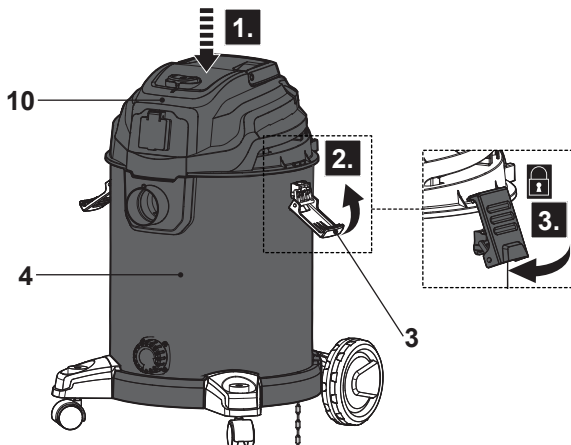

Fig. 9
> Place the motor unit (10) with cartridge filter (23) onto the tank (4) and secure it with the plastic clasps (3) (Fig. 9). Ensure the motor unit sits properly on the tank and the connection is properly sealed.